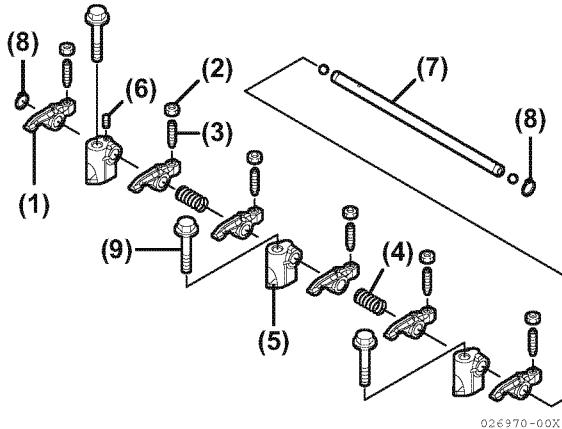

Figure 6-5
1. Remove the rocker arm shaft alignment set screw (Figure 6-5, (6)) from support (Figure 6-5, (5)).
2. Remove two circlips (Figure 6-5, (8)).
3. Slide the rocker arm shaft (Figure 6-5, (7)) out of the rocker arm supports (Figure 6-5, (5)), springs (Figure 6-5, (4)), and rocker arms (Figure 6-5, (1)).
4. Remove the valve adjusting screw (Figure 6-5, (3)) and lock nut (Figure 6-5, (2)) from the rocker arms. Mark parts so they can be reinstalled on the same rocker arm.